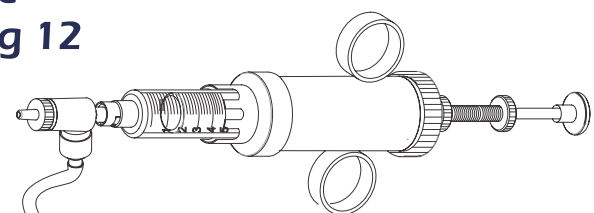

Fig. 12
Place the filling assembly (20) on the luer lock of the syringe. Since liquid is to be taken from an open flask, connect the sinker to the end of the feed tube and immerse it in the liquid. Refer Fig 12